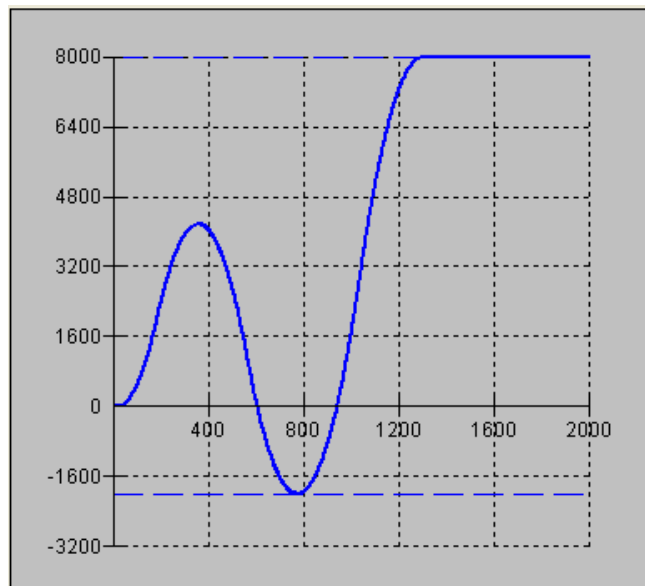
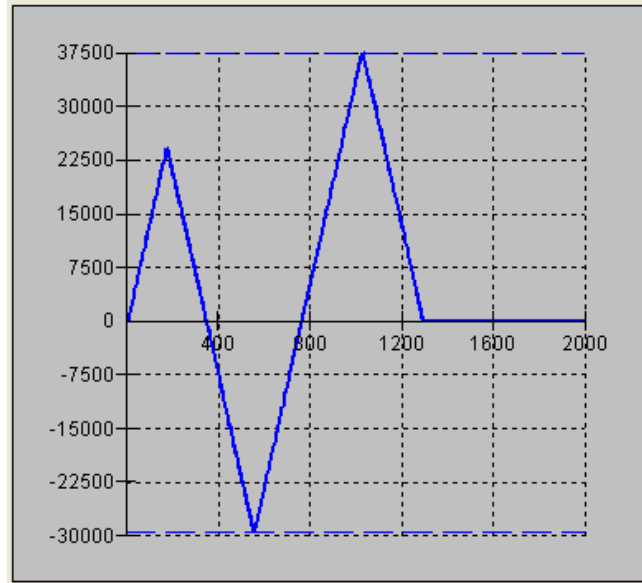
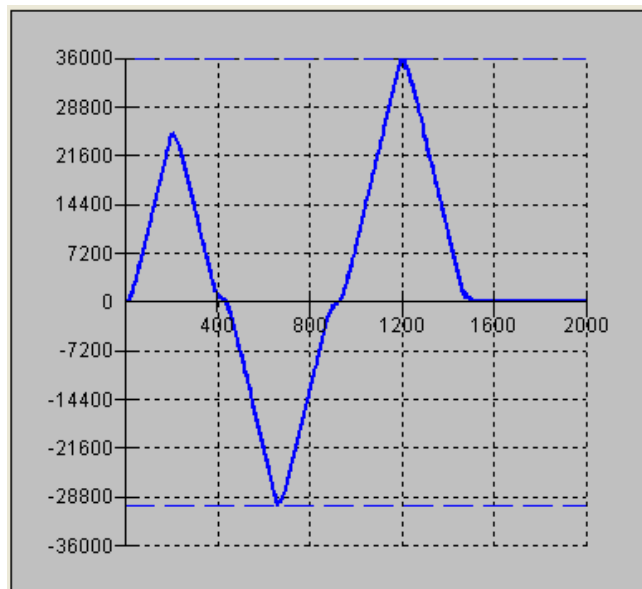

Figure 6.4 Position vs. Time (msec) Motion 4
Figure 6.5 Velocity vs. Time Motion 4
Figure 6.6 Velocity cts/sec vs. Time (msec) with IT
In this motion, the host program commands the controller to begin motion towards position 5000, changes the target to -2000, and then changes it again to 8000. Figure 6.4 shows the plot of position vs. time, Figure 6.5 plots velocity vs. time, and Figure 6.6 demonstrates the use of motion smoothing (IT) on the velocity profile in this mode. The jerk in the system is also affected by the values set for AC and DC.